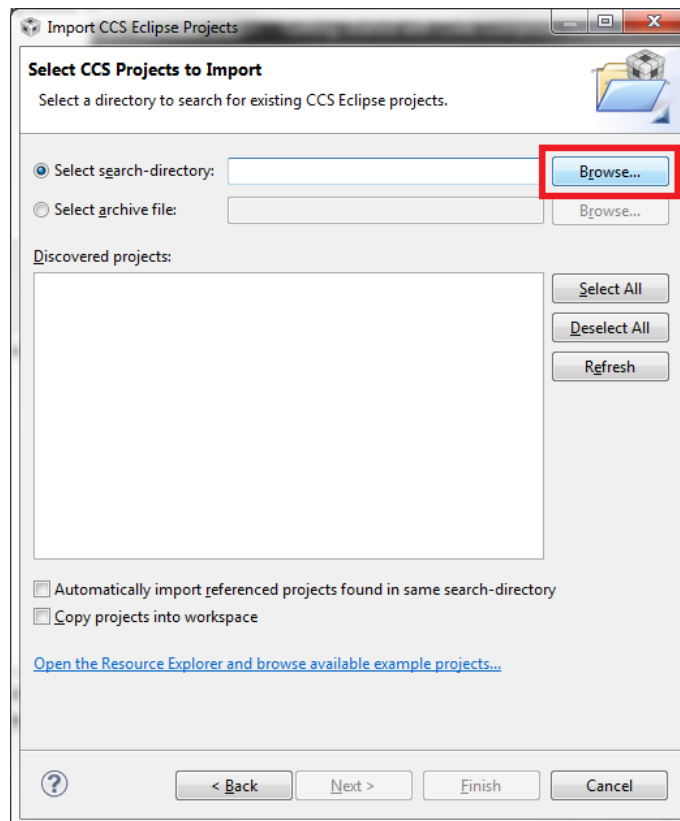

Figure 3-3. CCS Project Importation Search
6. Click the **Browse...** button next to the search directory box, as shown in Figure 3-3.